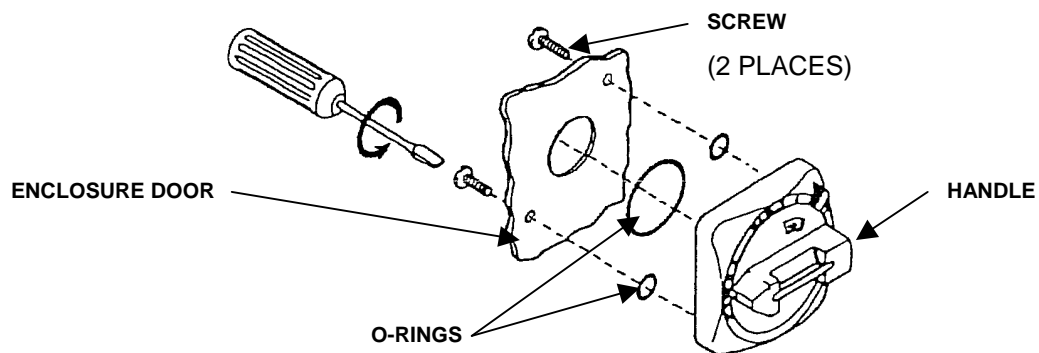

Figure 2. Handle Mechanism.
2. Remove two screws and O-rings from rear of handle mechanism. See Figure 2.
1. Install handle mechanism on enclosure door of control module. See Figure 2.